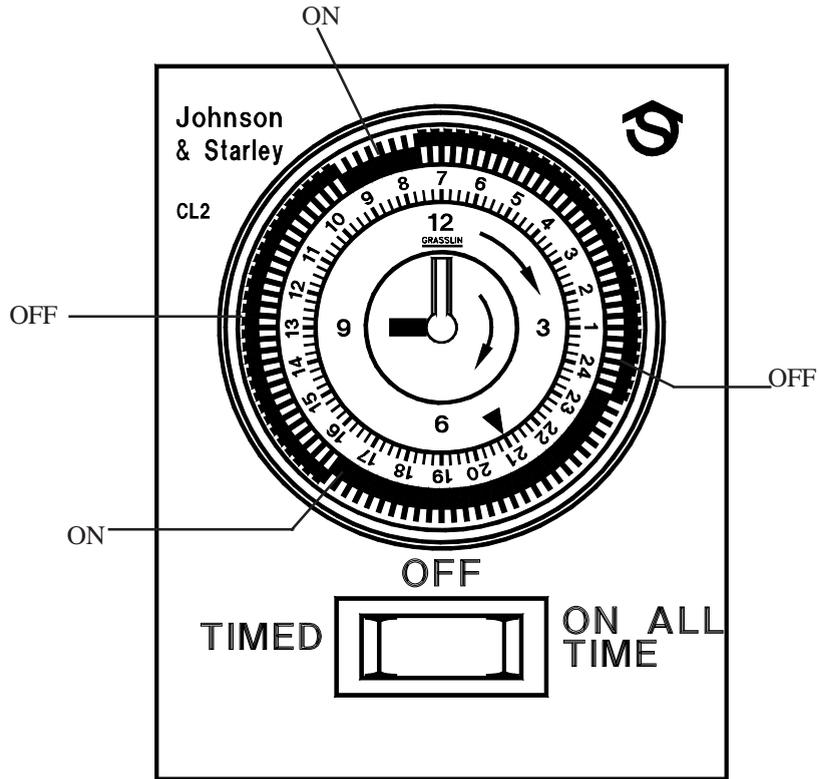

Fig. 2a
- 4.1 If an integral time control is fitted, it will be one of the two types shown in Fig. 2a or 2b. Type **CL2** will provide continuous or timed operation of the air heater, whilst type **CL3** will provide continuous or timed operation of the air heater and water heater, either individually or both together.